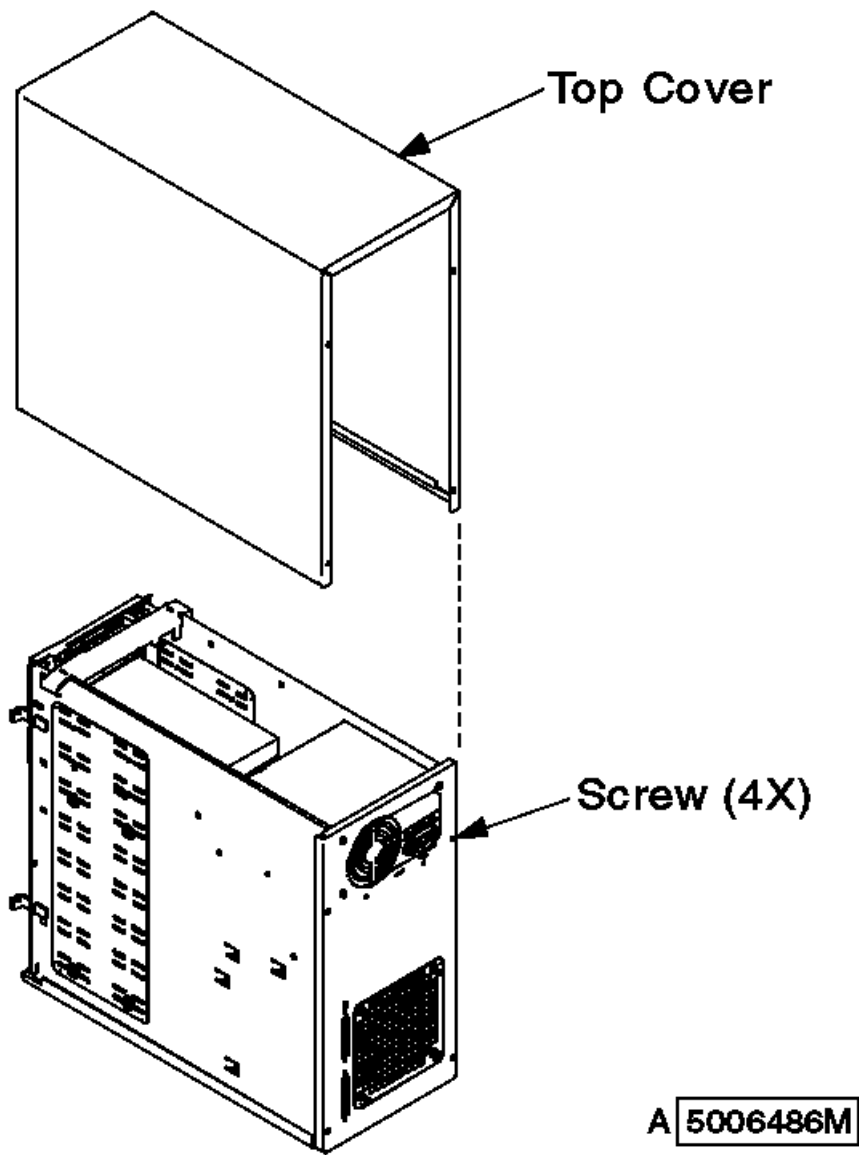

Figure 3-2. The 7131 Storage Tower Top Cover
4. Remove the 4 screws that fasten the top cover to the 7131 Storage Tower (see Figure 3-2).
7. Put the top cover on the 7131 Storage Tower (see Figure 3-2).